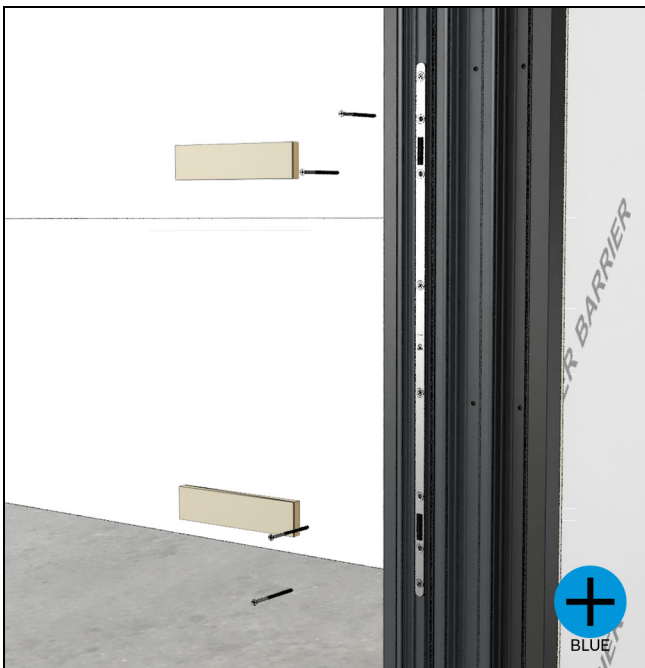

Figure 70
10. Shim and fasten with #8x3"(76) screws provided. See Figure 70.